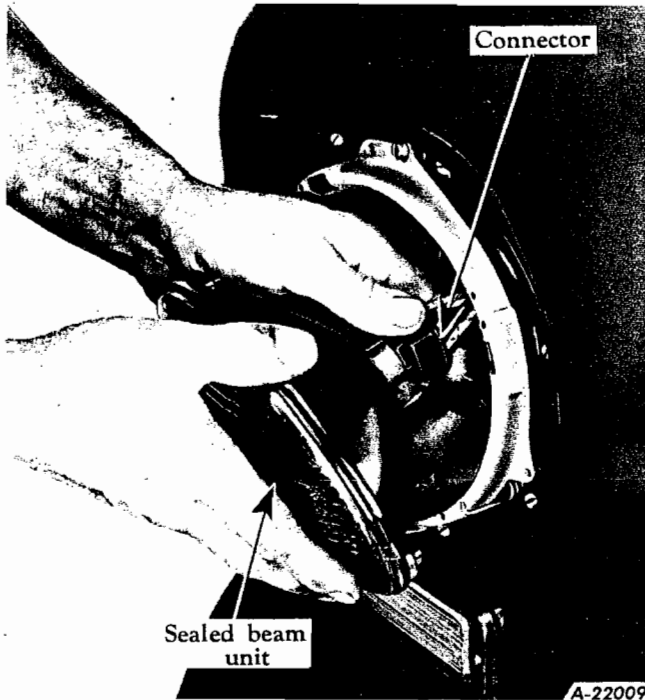

Fig. 3 - Removing sealed-beam unit.
3. Remove unit from headlight body and disconnect three-way connector at the rear. (See Fig. 3.)